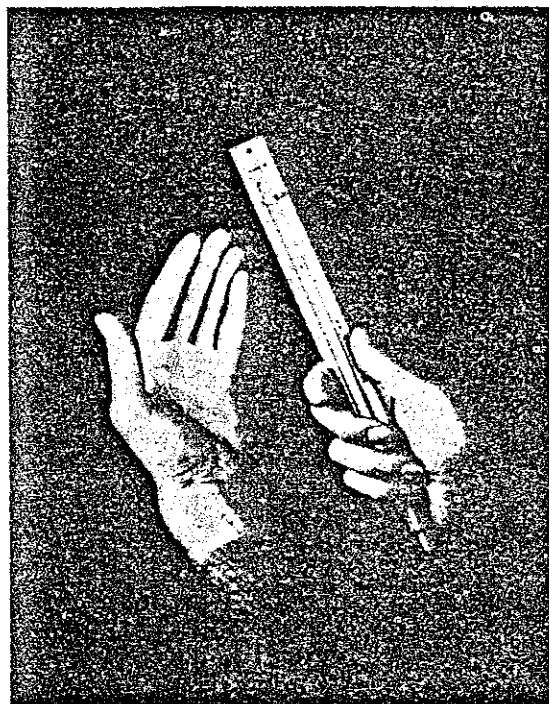

Fig. 1
- (1) Hold the thermometer securely below the middle (bulb end down when hand is raised above the elbow). Strike narrow edge of metal back opposite break in column sharply against fleshy portion of palm of hand (see Fig. 1). Repeat as necessary. While holding thermometer, do not apply pressure against glass stem, such as with fingers or other parts of hand.